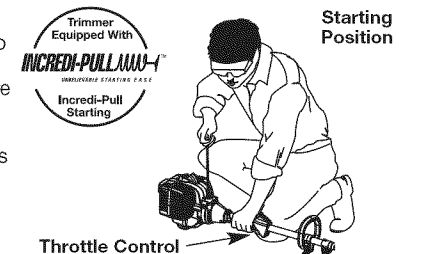

Fig. 16
WARNING: Avoid accidental starting. Make sure to be in the starting position when pulling the starter rope (Fig. 16). To avoid serious injury, the operator and unit must be in a stable position while starting.
5. Crouch in the starting position (Fig. 16). Do not squeeze the throttle. Pull the starter rope with a controlled motion until the unit starts.
5. Crouch in the starting position (Fig. 16). Do not squeeze the throttle. Place the Plug-In Power Start or Power Bit Start into the back of the unit. Refer to the *Operation* section of the Plug-In Power Start or Power Bit Start operator's manual.
6. Press and hold the ON (I) button of the Plug-in Power Start or Power Bit Start equipped drill in intervals no longer than 4 seconds each until the unit starts.
7. Wait and allow the unit to idle for 5 - 10 seconds. If the unit stops running during this time, squeeze the throttle control, then press and hold the ON (I) button of the Plug-in Power Start or Power Bit Start equipped drill in intervals no longer than 4 seconds each until the unit starts.
- IF...** The engine fails to start after a few attempts, squeeze the throttle control, then press and hold the Plug-In Power Start or drill ON (I) button in intervals no longer than 4 seconds each until the unit starts.